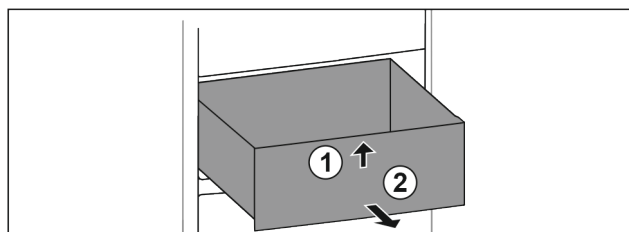

Fig. 68
- ▶ Lift up drawer at the front. Fig. 68 (1)
- ▶ Remove drawer to the front. Fig. 68 (2)